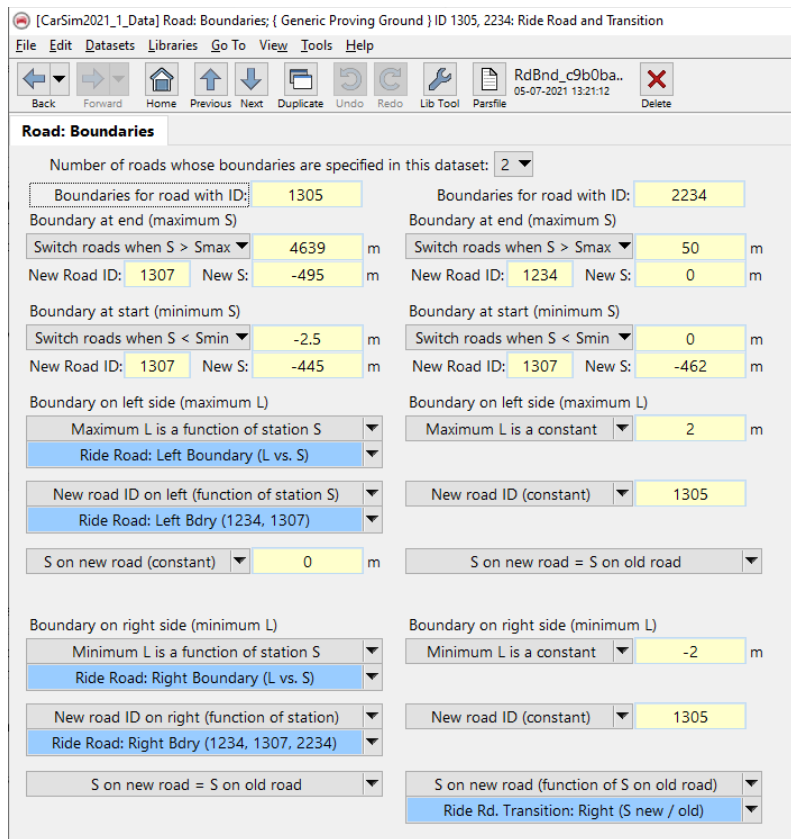
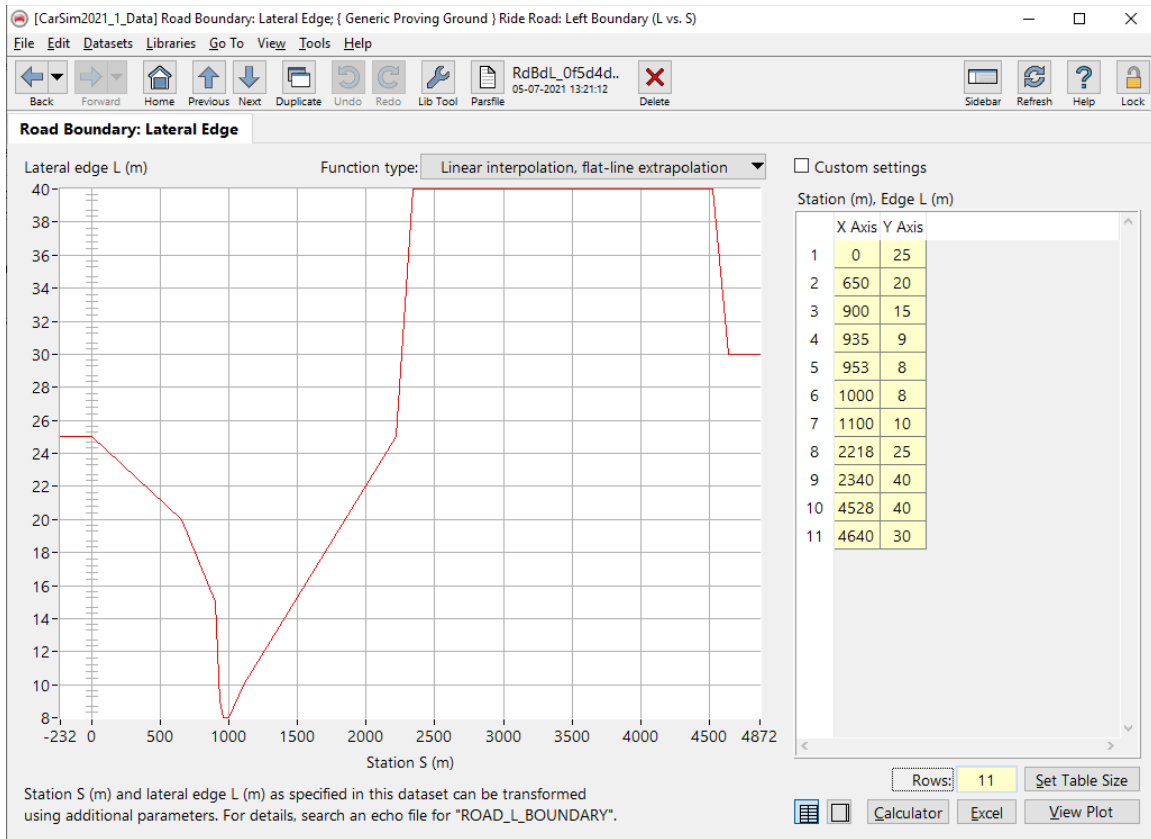

Figure 34. Road Boundary dataset for the Ride Road (ID = 1305) and Transition (ID = 2234).
Figure 35. Lateral Edge vs. Station boundary for the left side of the Ride Road.
- If the vehicle drives directly between the Ride Road's entry and exit, it must first cross ID 2234. Since road ID 2234 has its own left and right boundaries (Figure 34 and Figure 35) and these are parallel to the right boundaries of the Ride Road (albeit at different Station positions), distinct boundary conditions exist for each of these two cases. Therefore, they can be managed as two unique sets of boundaries, with two unique sets of relative Station positions.
This method helps to ensure a positive transition while also properly managing the new Station position when the vehicle transitions between the entry and exit of the Ride Road. Figure 34 and Figure 35 show a few of the road boundary datasets used as part of the Proving Ground.